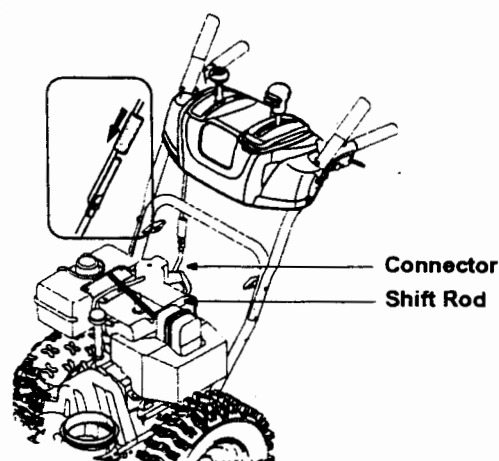

Figure 2
3. Slide the shift rod connector down over the end of the lower shift rod. Tap the connector until it **locks** over the lower shift rod. See Figure 2.